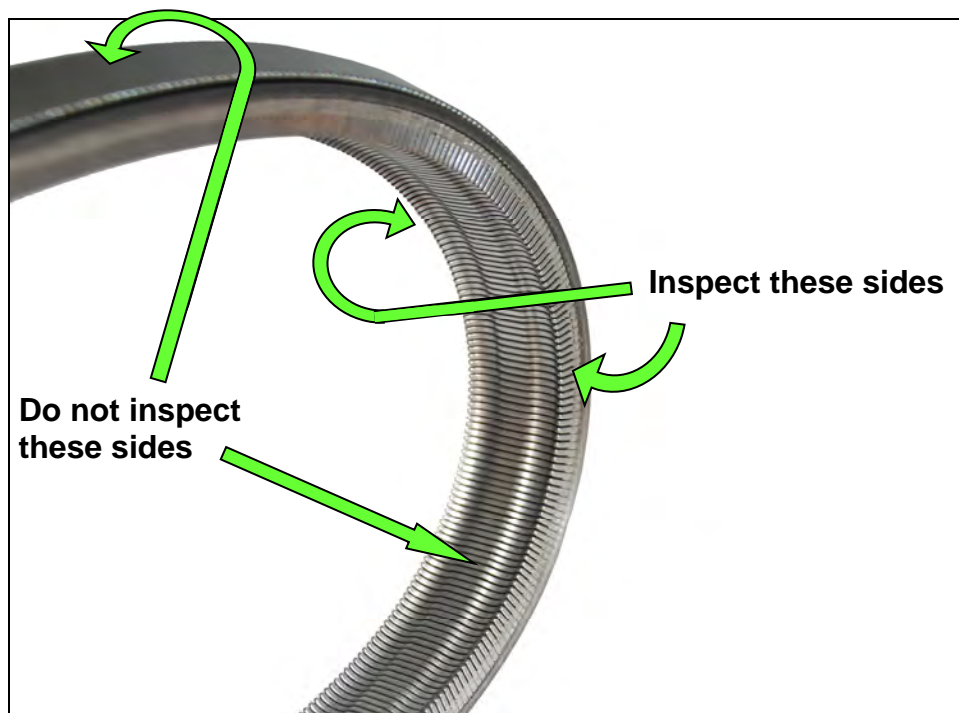

Figure 8
4. Using borescope J-51951 with mirror attachment, inspect the entirety of the two sides of the belt that come in contact with the pulleys (see page 7, Figure 8). Reference the pictures on pages 7 through 11 for comparison.